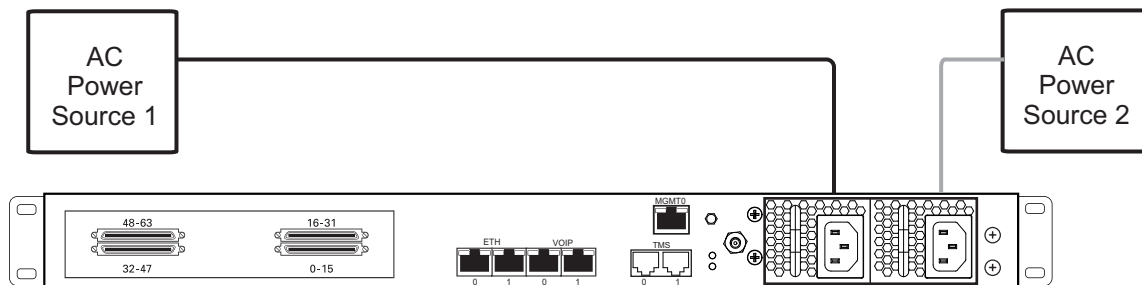

Figure 4.13 AC Power Connection
1. Connect an AC power cable between the AC connector of the 7800 Telecom Unit and an AC supply. See figure 4.13 on page 41.